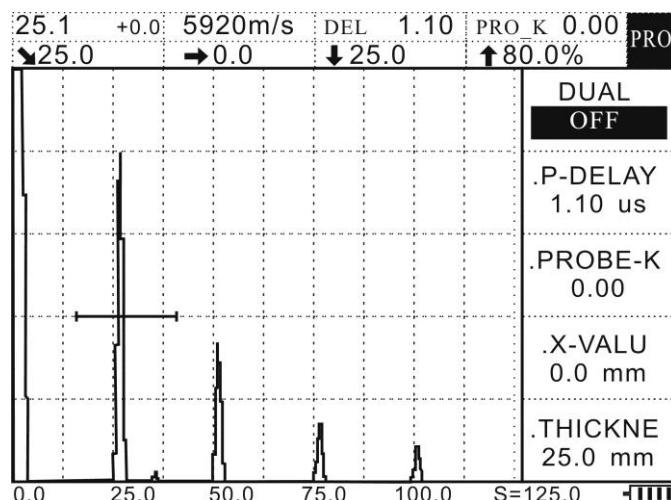

Figure 4-3
4. Set Gate A to 100.0 reach Figure 4-2. The sound path value is displayed on the screen. If the vertical sound path is not 25mm, press **PROBE**, then press **▲** (up) or **▼** (down) to select the probe zero submenu. Then press **▶** (right) to adjust the value till the vertical sound path is 25mm. At this point, the probe zero is the zero after calibration, as shown in Figure 4-3.